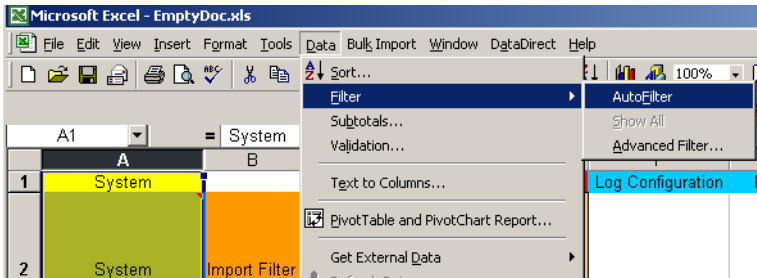

Figure 191. Applying the Auto Filter
- 1. Select column A, and then choose **Data>Filter>Auto Filter** from the Excel menu bar, Figure 191.